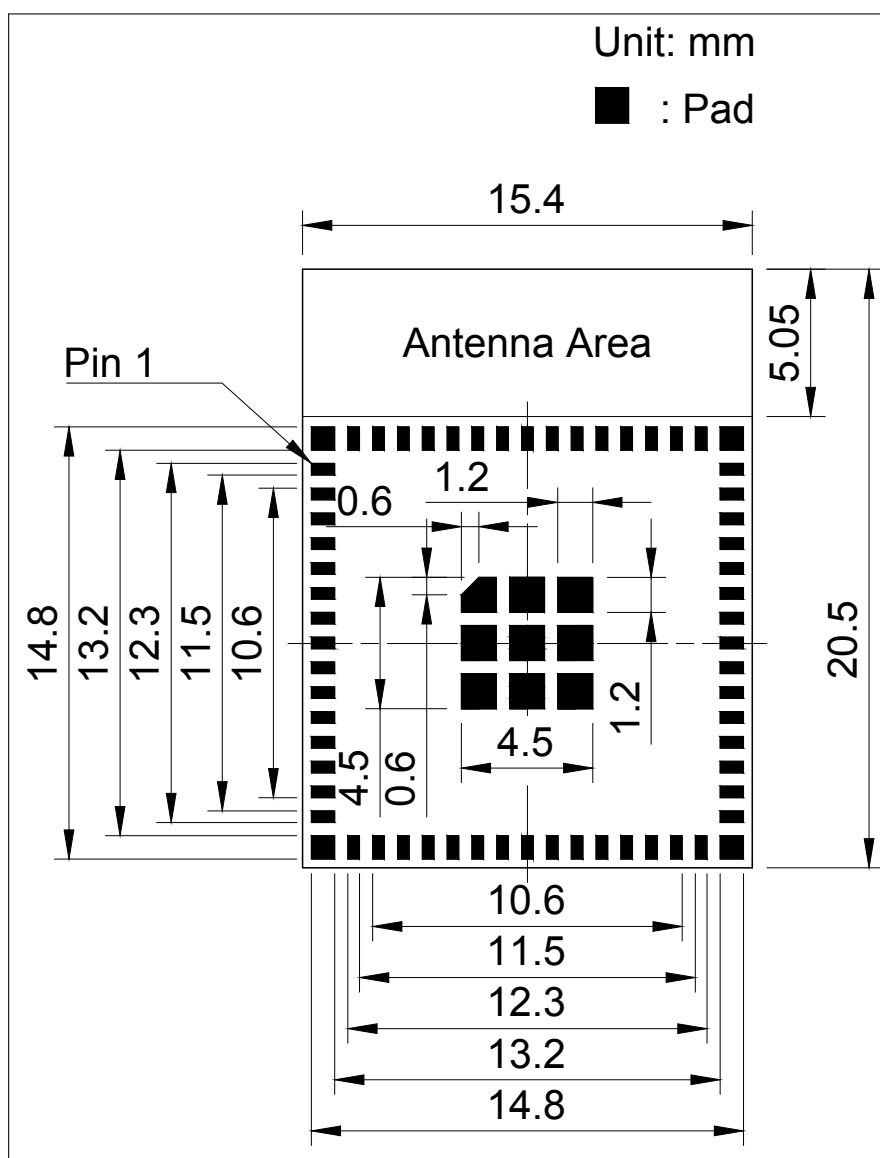
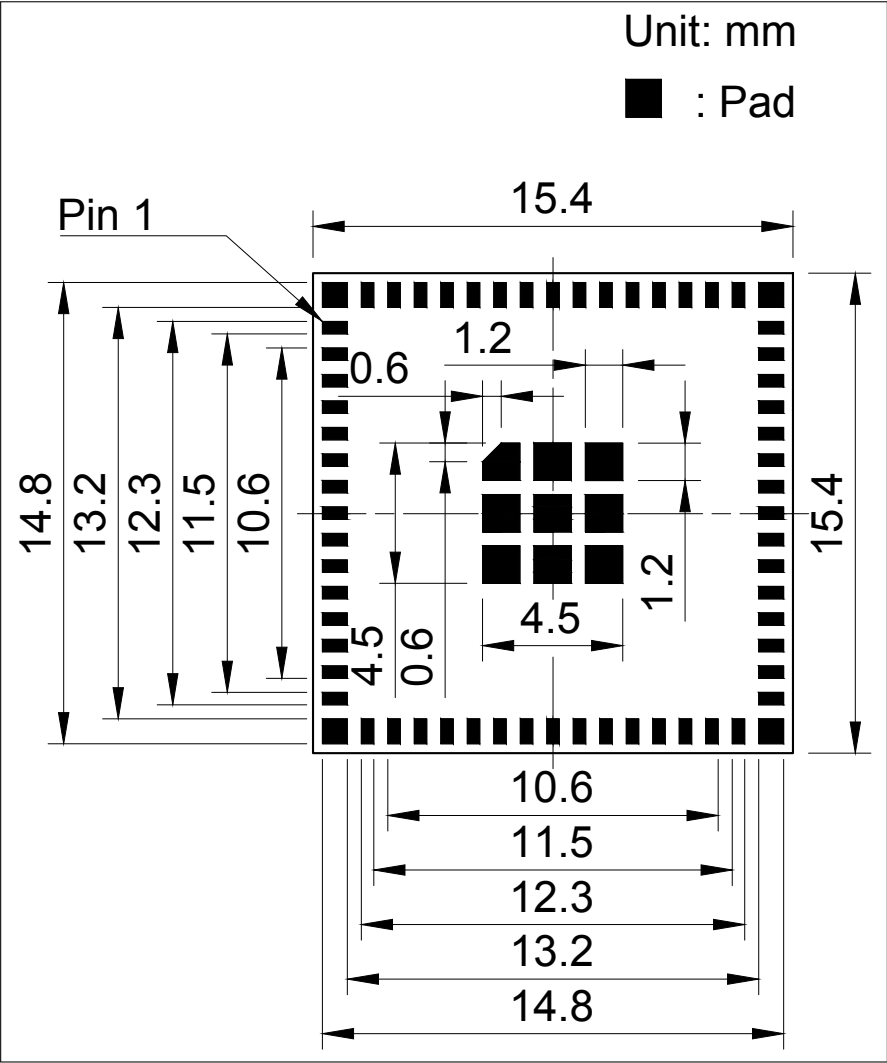

Figure 10: ESP32-S2-MINI-2 Recommended PCB Land Pattern
Figure 11: ESP32-S2-MINI-2U Recommended PCB Land Pattern
- Figures for recommended PCB land patterns with all the dimensions needed for PCB design. See Figure 10 *ESP32-S2-MINI-2 Recommended PCB Land Pattern* and Figure 11 *ESP32-S2-MINI-2U Recommended PCB Land Pattern*.
- Source files of recommended PCB land patterns to measure dimensions not covered in Figure 10. You can view the source files for ESP32-S2-MINI-2 and ESP32-S2-MINI-2U with Autodesk Viewer.